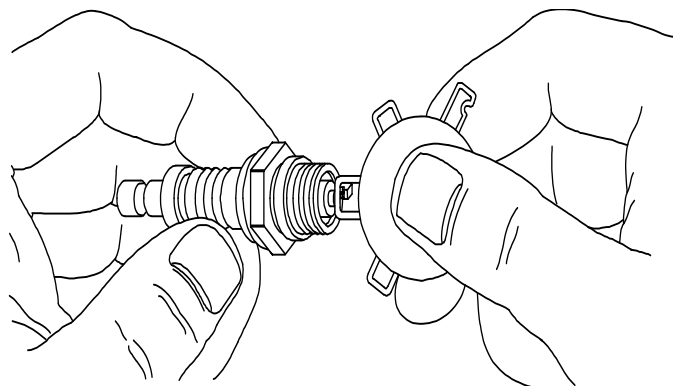

Figure 5-17. Adjusting Spark Plug Gap
7. See Figure 5-17. Inspect spark plug gap using a wire feeler gauge. Adjust gap by carefully bending ground electrode as follows: